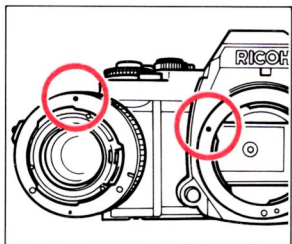

Fig. 5
3. Align the red dot on the camera with the red dot on the lens and mount the lens on the camera. (Fig. 5)